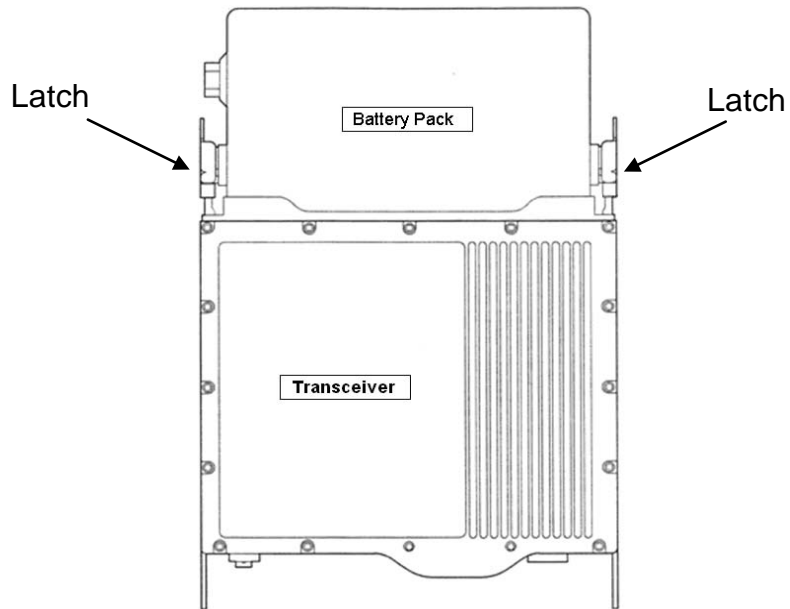

Figure 4 - Battery Pack Installation
2. Set transceiver face down on the front panel handles as shown in Figure 4.